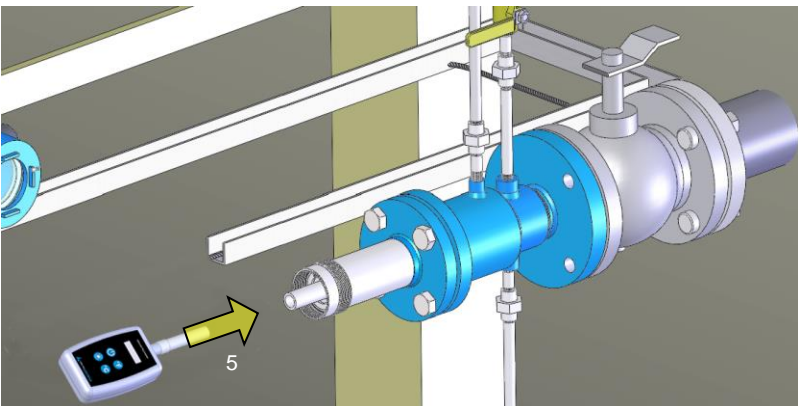

Figure 2
5. Turn on HIP and select desired unit of measure. Insert lens probe into the alignment tube. (Figure 2)